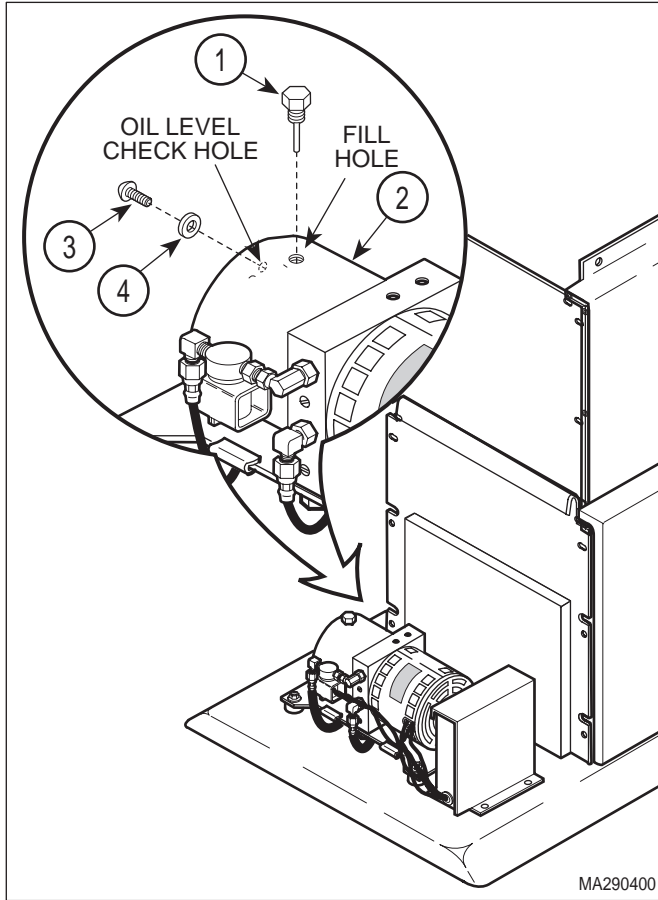

Figure 4-3. Checking / Adding Oil To Motor Pump
- (1) Move the TABLE DOWN function all the way down.
- (2) Remove motor cover assembly (Refer to para 4.2).
- (3) Remove filler cap (1, Figure 4-3) from motor pump (2).
- (4) Remove screw (3) and gasket (4) from motor pump (2).
- (5) Check oil level. If oil level in reservoir is not even with oil level check hole (A), oil must be added.
- (6) Place a rag under oil level check hole (A).